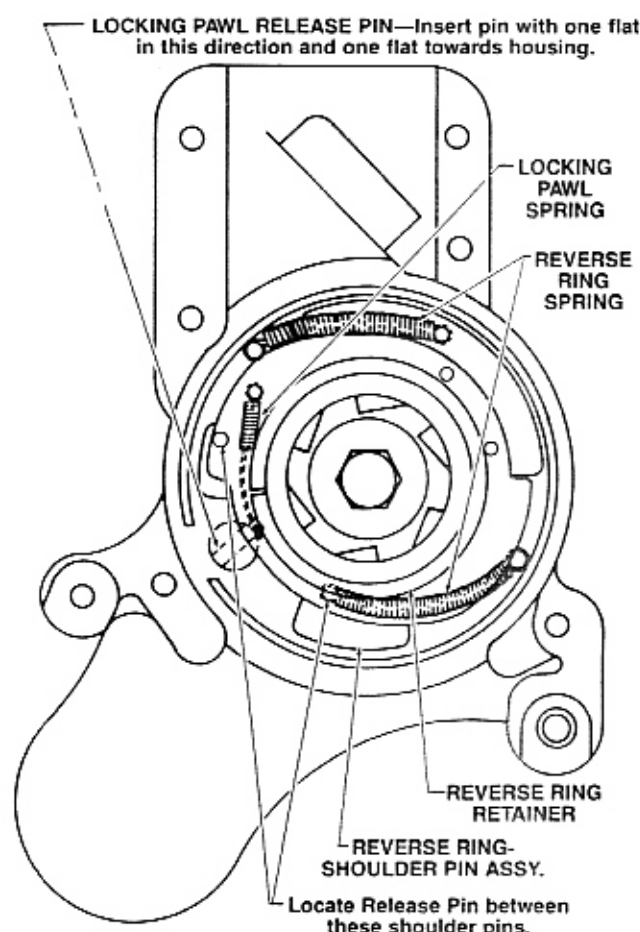

FIGURE 4-6. REVERSE RING ASSEMBLY FOR ZG-4½ AND ZG-6 HOISTS
- 1) If latch kit (75) was removed, attach kit to bottom hook (74). Lubricate bottom hook shank with SAE 20-30 oil.
- 2) If sprocket bushings (68 & 71) were removed, press bushings into sprockets (69 & 72). Apply coating of Duff-Norton H-7613 grease, or equivalent, to sprocket bushings and super frame pins (66).
- 3) Insert super frame pins (66) in sprocket-bushing assemblies (-67 & -70). Place these assemblies and bottom hook assembly (-73) in position between two super frames (65). Attach super frames together with four rivets (64).
- c. If stationary pins (47) and dowel pin (77) were removed from a right frame (48), press pins in frame. Apply a coating of SAE 10 oil to locking pawl (45) shaft and insert shaft in right frame. Attach locking pawl spring (44) to locking pawl and stationary pin.
- e. Attach latch kit (31) to top hook (30) if kit was removed. Lubricate hook shank with SAE 20-30 oil. Lubricate bearing surface of sprocket shaft (32) with Duff-Norton H-7613 grease, or equivalent, and insert sprocket in right frame (48). Apply a coating of Duff-Norton H-7613 grease, or equivalent, to bushing and idler pin (49). Insert idler pin through sprocket-bushing assembly (-50) and into right frame. Place top hook assembly (-29) in position between right and left frames and fit frames together while guiding reverse ring stop pin (36) into hole in right frame. Attach frames together with six hoist rivets (28, 28A & 28B).
- f. Turn reverse lever (41) to "Down" position so that reverse ring stop pin (36) is pulled in. Apply a coating of Duff-Norton H-7613 grease, or equivalent, to mating surfaces of right frame (48) and reverse ring-shoulder pin assembly (26). Place reverse ring-shoulder pin assembly on right frame. See figure 4-6. Make sure that reverse ring-shoulder pin assembly is located so that when installed, the locking pawl release pin will be between the designated shoulder pins. Install